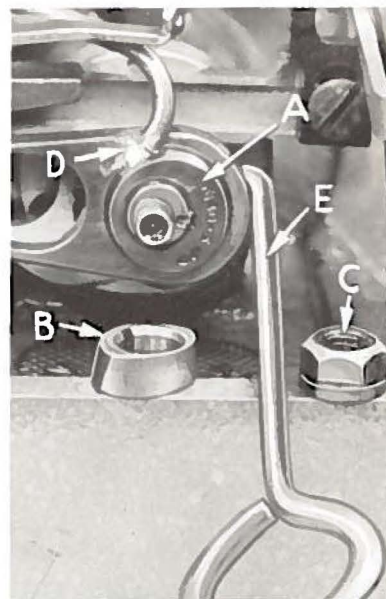

Fig. 13
In assembling feed eccentric (A, Fig. 13) be sure hub side of eccentric is placed on the right. Hub side of feed eccentric spacer and oil slinger (B) should be to the left. Be careful not to damage shaft or key. Tighten nut (C) securely. Be sure wool yarn in oil tube (D) touches feed eccentric spacer and oil slinger (E).